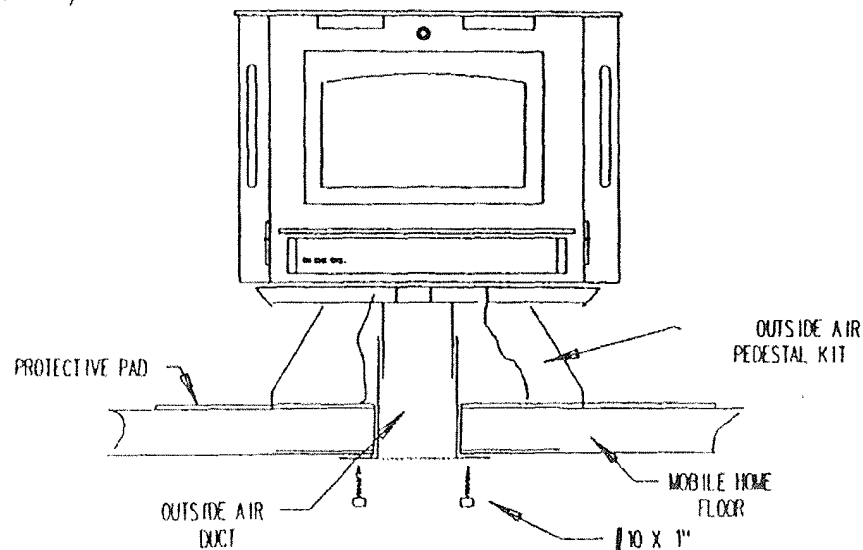

FIGURE 7
10. Using the electric drill and 3/8" masonry bit, drill four (4) holes in the protective pad using the holes in the bottom side lips of the pedestal stand as a guide. Be careful to drill only through the pad and not into the floor. Change the bit to a 1/4" metal bit and drill through the floor.
11. Using the four (4) 3/8" x 1-1/2" lag bolts provided, secure the pedestal stand and pad to the floor of the mobile home. **CAUTION!!** If a thick floor protector is used, you may have to use longer lag bolts.
15. Secure the outside air duct to the floor using the four (4) #10x1" screws provided. (See Figure 7).